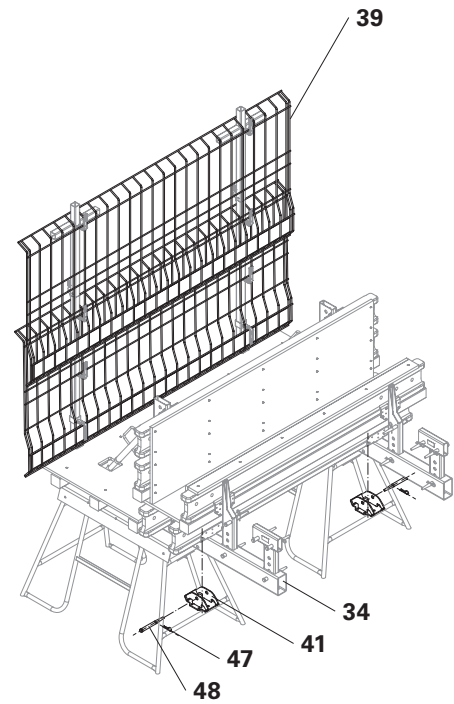

Fig. C1.07
4. Attach 2x Side Mesh Barrier PMB 260 (39) on top of each other on the Post Connectors Edge Beam VD (37). (Fig. C1.07)
1. Mount Prop Connector VD (41) on the Platform Beam (34) using Fitting Pin  $\varnothing$  21 x 120 (48) and secure with Cotter Pin 4/1 (47). (Fig. C1.07)